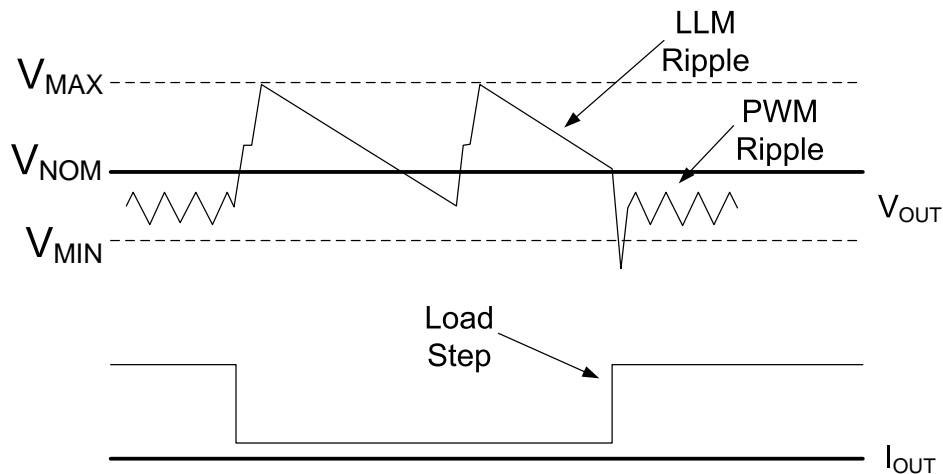

Figure 5. V_{OUT} behavior in LLM operation
- (1) Step V_{OUT} up by approximately 1.0% above the nominal operating output voltage setting, V_{NOM} and as low as -0.5% below V_{NOM} , and then
- (2) Shut down unnecessary circuitry, and then
- (3) Monitor V_{OUT} .
When V_{OUT} falls below V_{NOM} , the device will repeat (1), (2), and (3). The voltage step up, or pre-positioning, improves transient droop when a load transient causes a transition from LLM mode to PWM mode. If a load transient occurs, causing V_{OUT} to fall below the threshold V_{MIN} , the device will exit LLM operation and begin normal PWM operation. Figure 5 demonstrates V_{OUT} behavior during transition into and out of LLM operation. Many multi-mode DC-DC converters suffer from a condition that occurs when the load current increases only slowly so that there is no load transient driving V_{OUT} below the V_{MIN} threshold. In this condition, the device would never exit LLM operation. This could adversely affect efficiency and cause unwanted ripple. To prevent this from occurring, the EN6347QA periodically exits LLM mode into PWM mode and measures the load current. If the load current is above the LLM threshold current, the device will remain in PWM mode. If the load current is below the LLM threshold, the device will re-enter LLM operation. There may be a small overshoot or undershoot in V_{OUT} when the device exits and re-enters LLM.